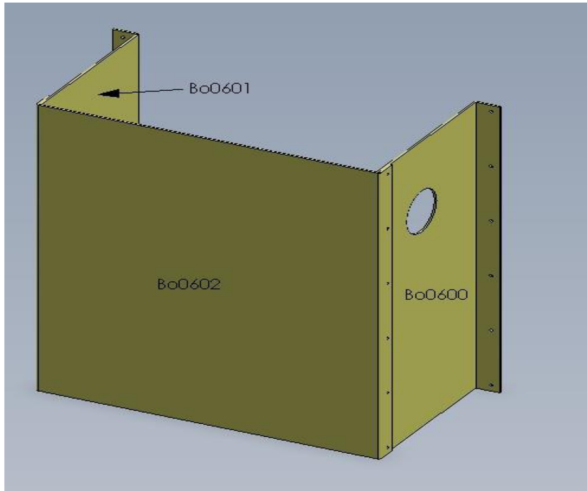

Figure 27
23) Assemble parts BO-0600, BO-0601 and BO-0602. *See figure 27.* Install burner box to the back of the oven; center it up to the oven.